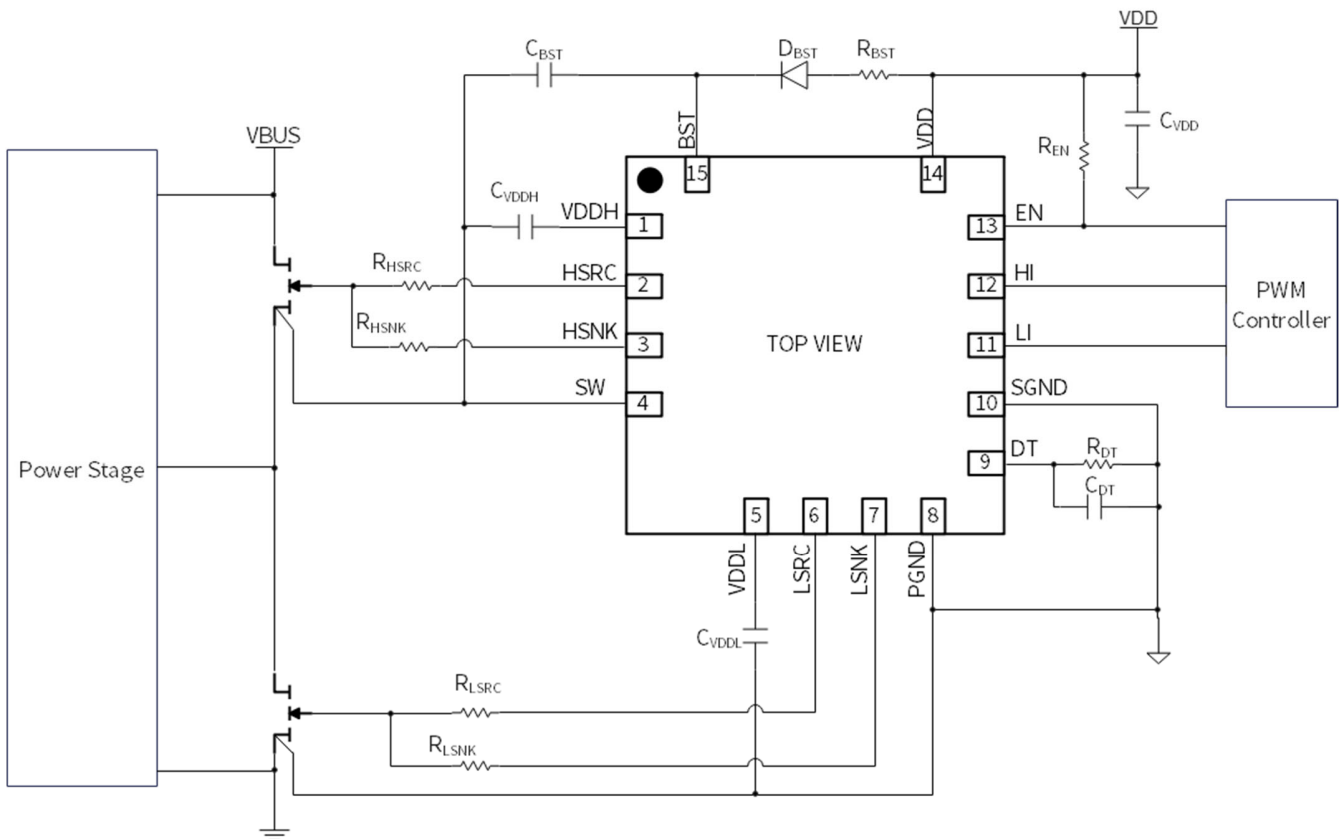

Figure. 8.1 Simplified Half-Bridge Application Schematic
Figure. 8.1 shows a typical half-bridge configuration by using the NSD2621X.
Signal Ground (SGND) and Power Ground (PGND): SGND is the PGND for all internal control logic and digital inputs. Internally, the SGND and PGND pins are isolated from each other. PGND is the return reference of the low side gate drive and VDDL. For GaN FETs that include a source Kelvin return, a direct connection should be made from PGND to the GaN FET Kelvin return. C_{VDDL} should be referenced to the PGND but separate from the power stage ground as shown in Figure. 8.1
Switch Node (SW): SW is the return reference of high side gate drive. For GaN FETs included a source Kelvin return, a direct connection should be made from SW to the GaN FET Kelvin return. C_{VDDH} and C_{BST} should be referenced to the SW pin but separate from the power stage switch node as shown in Figure. 8.1